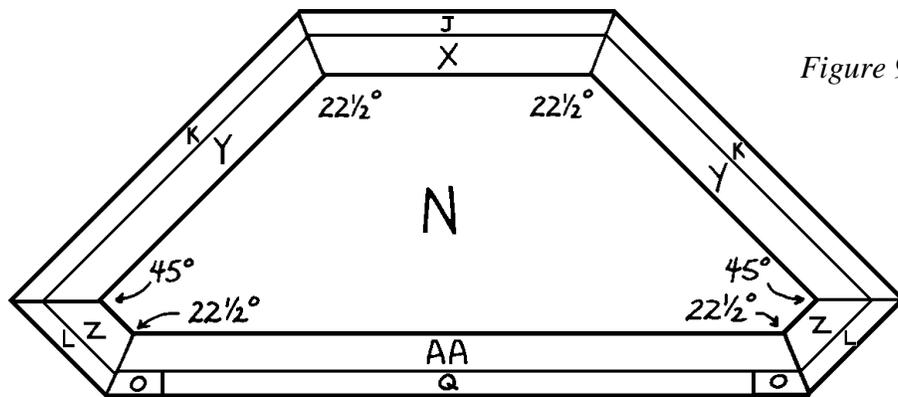

Figure 9
- As you can see in *Figure 9*, the reinforcements must be mitered to fit the beveled edges of the pieces they reinforce. The lengths specified above give you some excess for mitering room. Measure and miter carefully so that all of the reinforcements fit properly.
- Start by mitering both ends of the back reinforcement (X) at 22-1/2 degrees, as shown in *Figure 9*.